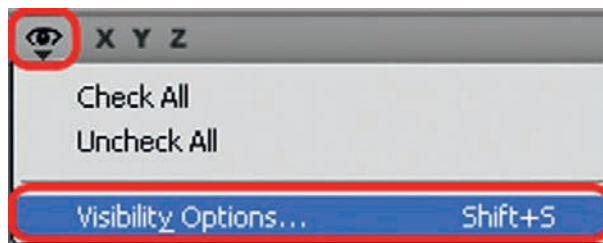
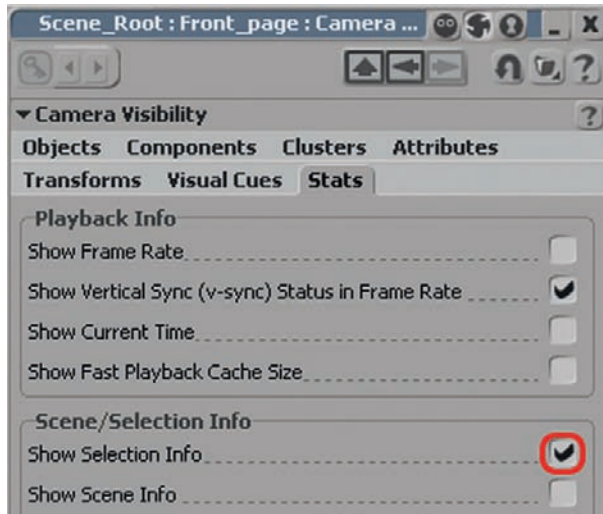

Figure 6.11
Figure 6.12
2. Click the eye icon from the top of the appropriate viewport and select Visibility Options from the drop-down list (Figure 6.11). When the Camera Visibility box opens, select Stats from the tabs at the top. From the stats screen, select Show Selection Info (Figure 6.12). This will display the selected mesh info in the top left of the viewport.